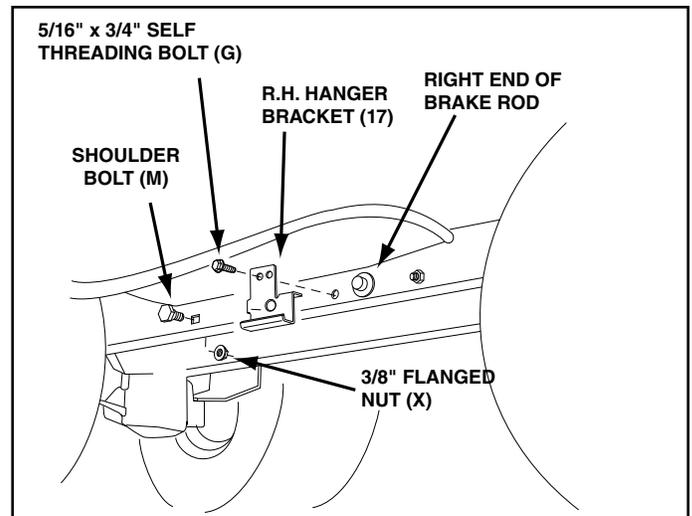

FIGURE 6 RIGHT SIDE VIEW
STEP 6: (SEE FIGURE 6)
- Attach the R.H. Hanger Bracket (17) to the hole using a 5/16" x 3/4" self threading bolt (G).
- Install a shoulder bolt (M) into the hole that is 9-1/2" to the rear of the bolt you just installed. Secure it with a 3/8" flange nut (X) on the inside of the frame.